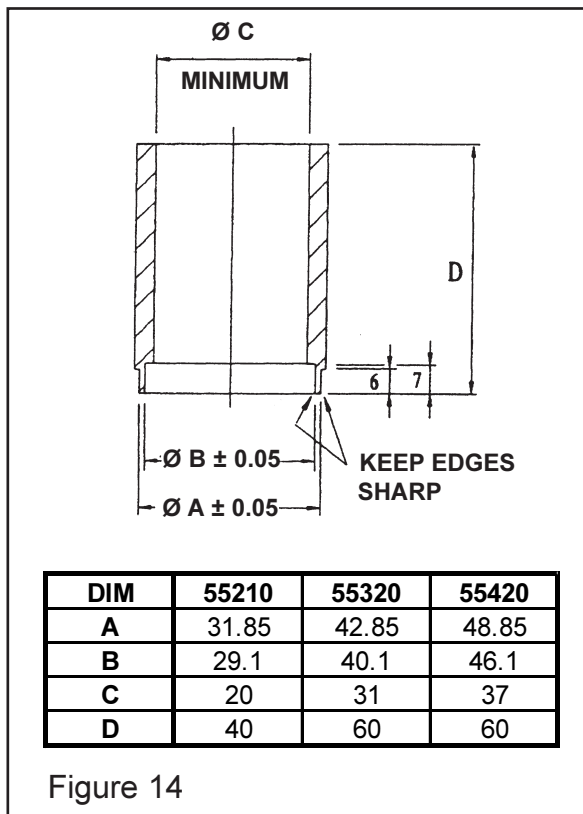

Figure 14
- a) Carefully remove the static seal seats (56) from their bores in the rotor case (38). Take great care not to scratch or damage the smooth face of the seal. Keep each seal with its respective shaft to ensure correct mating of the seal faces on re-assembly.
- b) The joint ring (50) may come out with the seal face. If not, then remove it from the rotorcase bore and keep it together with the seal face. You may wish to label the components. The 55210 size pump has a wave spring which can also be removed at this time.
- c) Only remove the rotary seal seat (56) from the back of the rotor (40) if you intend to fit a new seal or cup rubber (49).
d) Make up or purchase a sleeve (90) as Figure 14. Press ring down onto cup rubber to force out seat. Do not try to prise out the seat with screwdrivers or similar tools. **Seat materials are brittle.** If seal seat is to be fitted later, note which way up it was fitted - seats are not reversible.